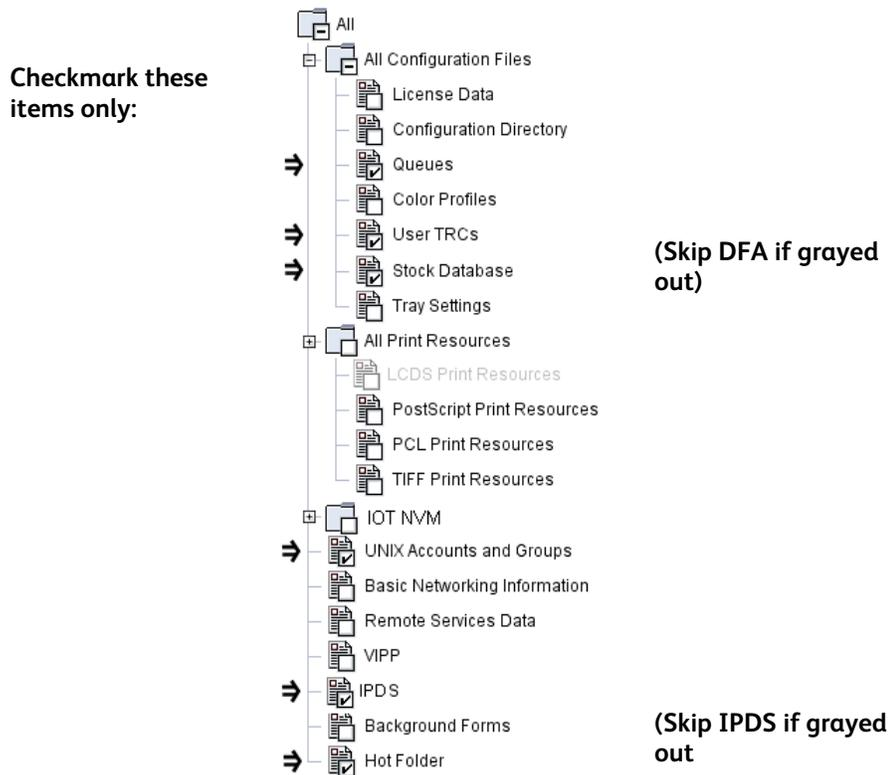

Figure 4.6 – Configuration Backup Folder Selection
- ___3. In the File Selection window, select the following items (Figure 4.6):
- ___4. In the File Selection window, ensure the following items are not checked (Figure 4.6):